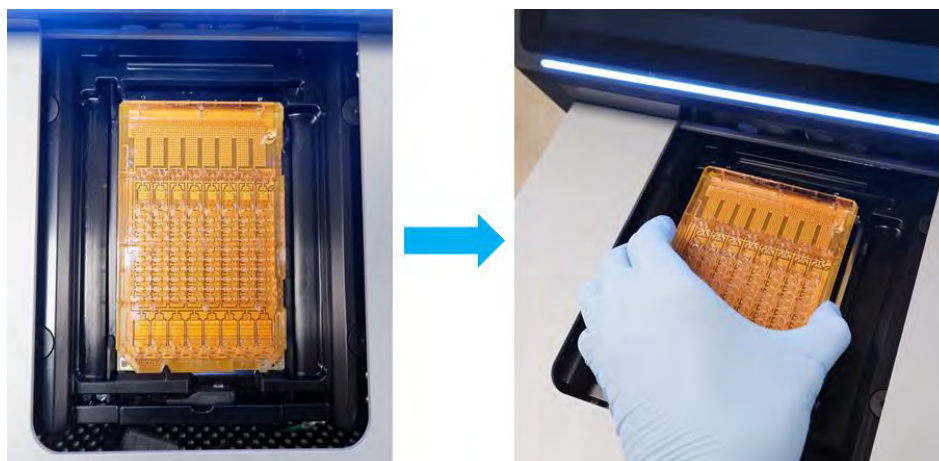

Figure 5.45: Remove the cartridge from the cartridge loading bay.
2. Once the door is open, wear gloves and remove the cartridge from the instrument (Figure 5.45).